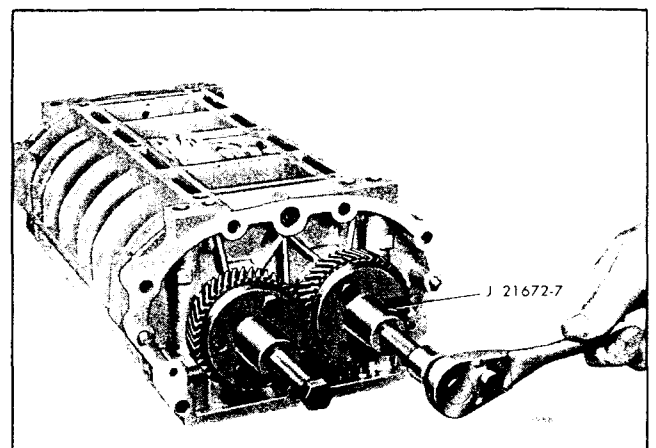

Fig. 5 - Removing Rotor Gears
2. Remove the two bolts and pilots (43) securing the blower rotor gears to the blower rotor shafts.
3. Remove the blower rotor gears with pullers J 21672-7 (Fig. 5). Both rotor gears must be pulled at the same time as follows:
and housing to prevent them from turning. turn the puller screws uniformly clockwise and pull the gears from the rotor shafts as shown in Fig. 5.